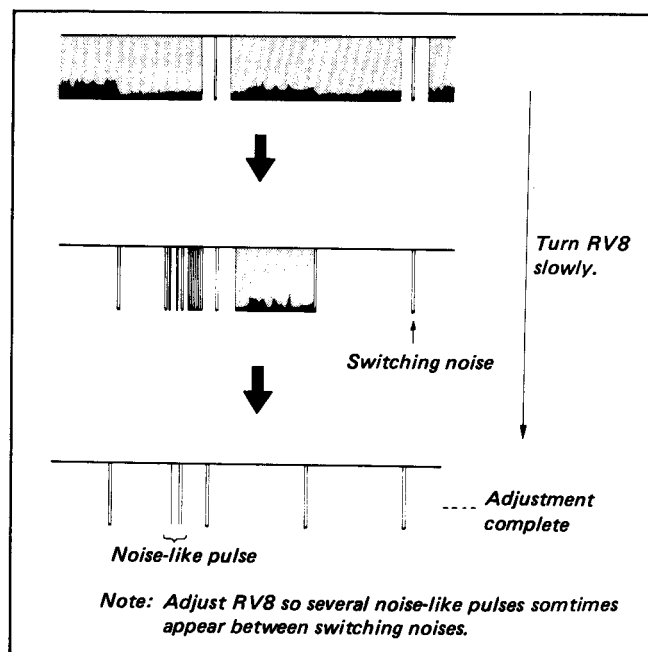

Fig. 4-15
- 3) Playback the recorded signal. (Short pins ② and ④ of CN307 on SS-17 board to get the playback mode.)
- 4) Turn RV8 fully clockwise (↻), as viewed from the pattern side, then, slowly turn it counter-clockwise (↺) until the state shown in Fig. 4-15 is attained.